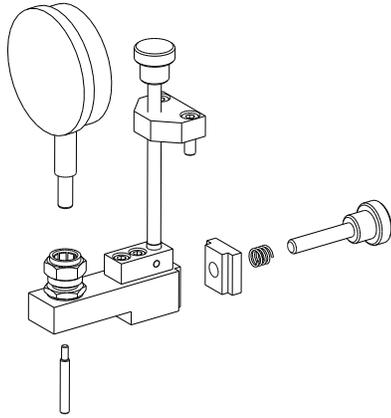
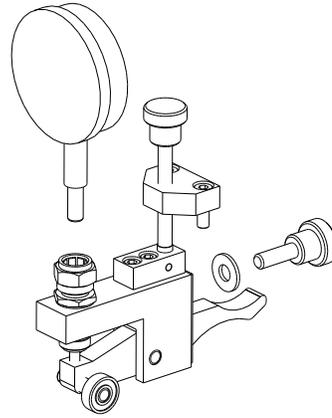

Figure 10. Dial Indicator Holder With Fine Adjust
Figure 11. Roller Checking Attachment with Fine Adjust
7.0 Rear Carrier Fine Adjustment – (See Figures 10 and 11)
Assemblies can be provided with a Fine Adjust Attachment for Indicator movement. Figure 10 shows a Dial Indicator Holder with Fine Adjust and Figure 11 shows a Roller Checking Attachment with Fine Adjust. All of the options mentioned utilize the same basic Carrier.